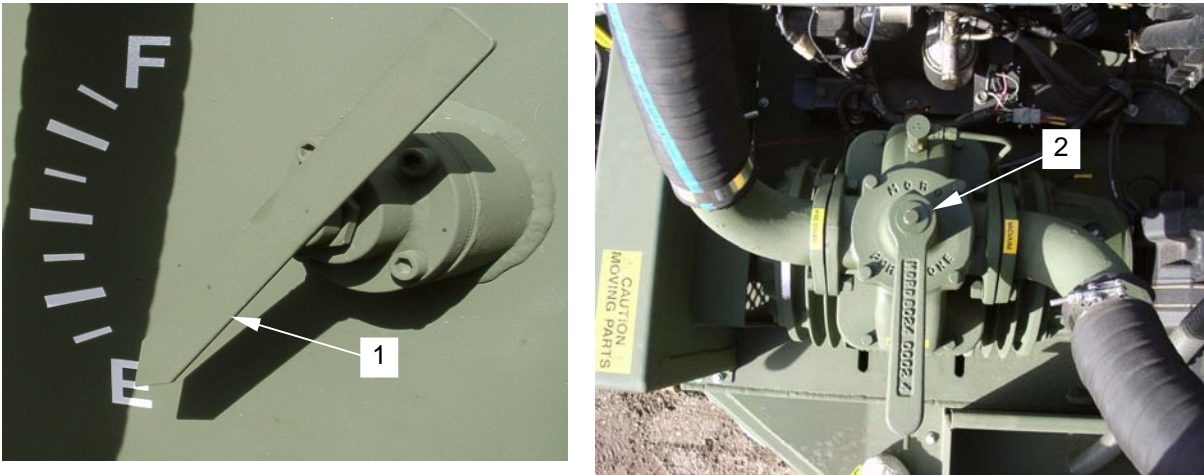

Figure 39. Float Level Indicator and Vacuum Pump Control
- k. Observe tank draining as shown on float level indicator (**figure 39, item 1**).
- l. When tank is empty, Place vacuum pump control handle (**figure 39, item 2**) in neutral position.